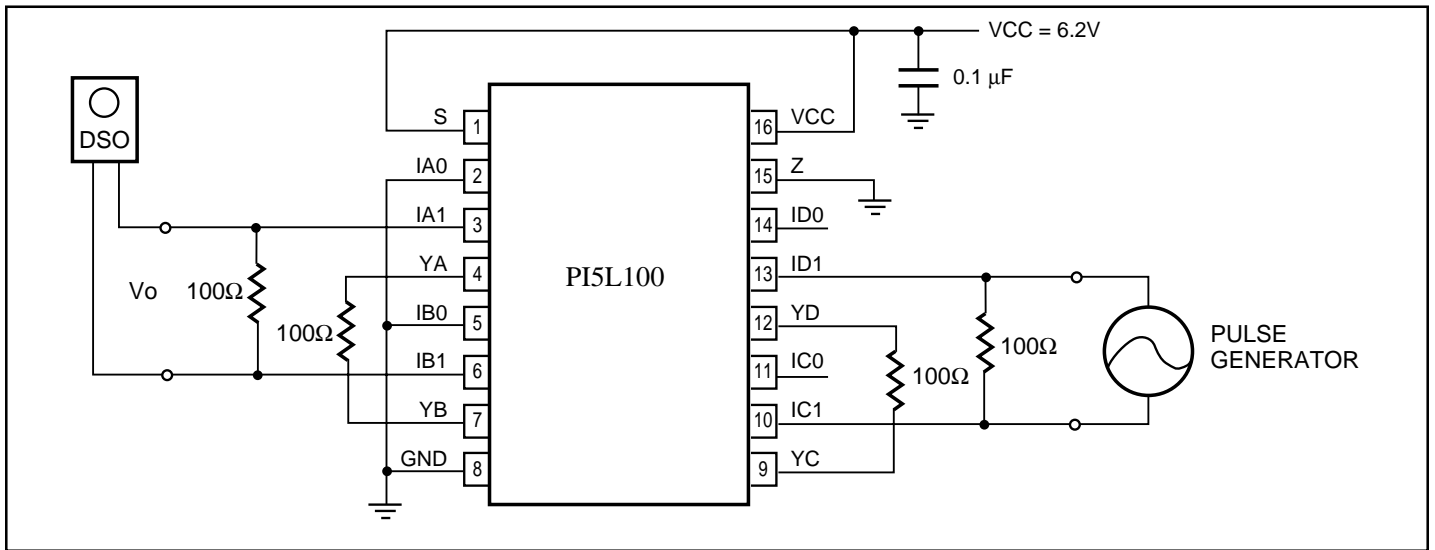

Figure 11. Differential Crosstalk Measurement
The PI5L100 was designed to switch between various standards such as 10Base-T, 100Base-T, 100VG-AnyLAN, and Token Ring. Also general purpose applications such as loopback, line termination, and line clamps that might normally use mechanical relays are also ideal uses for this LAN Switch (see Figure 11 applications). Generally speaking, this LAN Switch can be used for data rates to 200 Mbps and data signal levels from 0V to 4.5V.
Adjacent pins cause the most crosstalk because of the interlead package capacitance which is generally in the order of 0.5pF (pin-to-pin). It can be seen in Figure 11 that this Evaluation (EV) Board schematic uses four pairs of switches. Pair 1B/2B are RX1 that connect to YA and YB. The second pair, 3B/4B, are TX1 and connect to YC and YB. Pairs 3 and 4 are grounded for this differential crosstalk test. The purpose of this EV board is to determine the amount of crosstalk between the transmit and receive pairs in a full duplex application. Figure 15 shows the scope waveforms. Traces